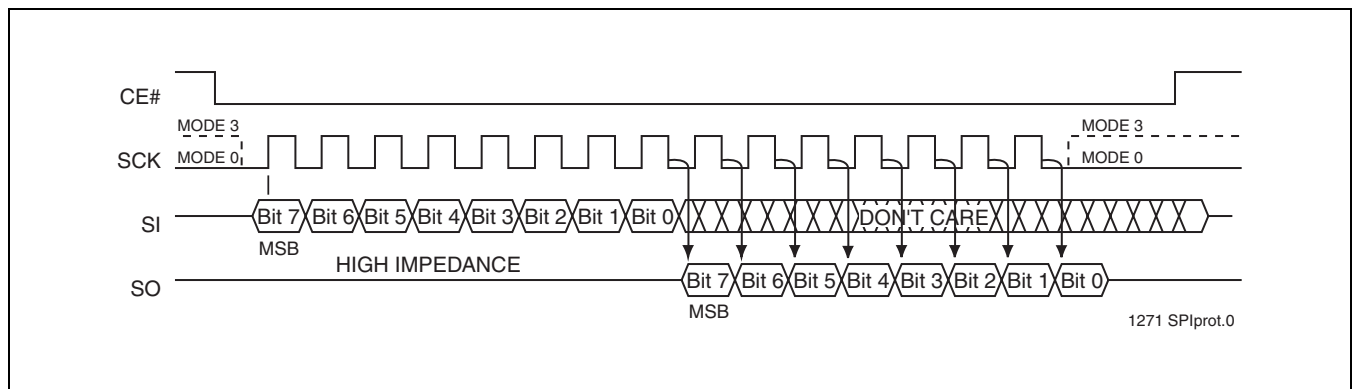

FIGURE 3: SPI Protocol
The SST25VF016B supports both Mode 0 (0,0) and Mode 3 (1,1) of SPI bus operations. The difference between the two modes, as shown in Figure 3, is the state of the SCK signal when the bus master is in Stand-by mode and no data is being transferred. The SCK signal is low for Mode 0 and SCK signal is high for Mode 3. For both modes, the Serial Data In (SI) is sampled at the rising edge of the SCK clock signal and the Serial Data Output (SO) is driven after the falling edge of the SCK clock signal.